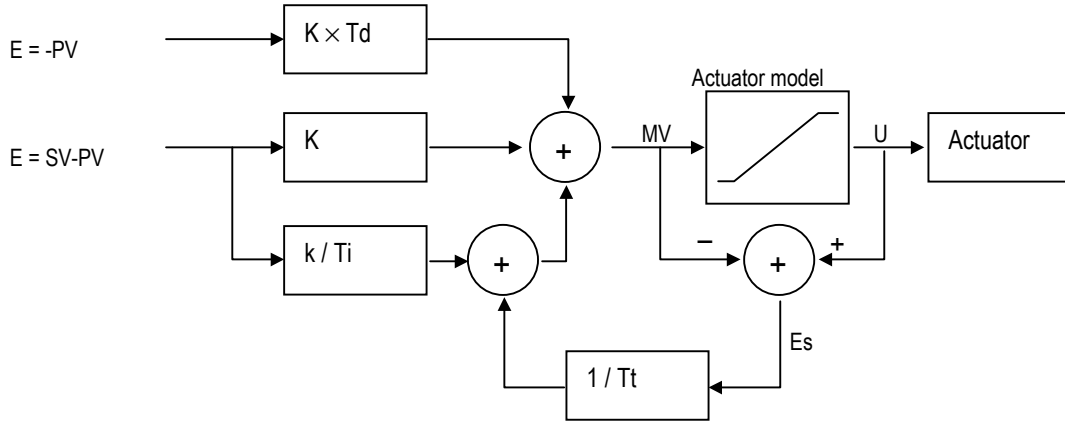
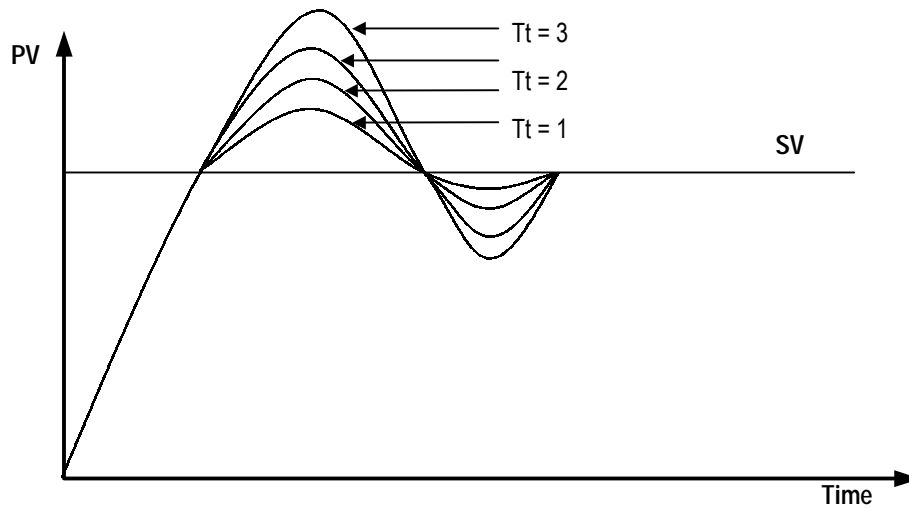

Fig. 2-13 The block diagram of anti-windup control system
Fig. 2-14 The PV output characteristics with different Tt values.
There are several methods to avoid the windup of actuator. The most popular two methods are adding another feedback system to actuator, and using the model of actuator. The Fig. 2-13 shows the block diagram of the anti-windup control system using the actuator model.
As shown in the Fig. 2-13, the anti-windup system feedback the multiplication of gain ( $1/T_t$ ) and  $E_s$  to the input of integral term. The  $E_s$  is obtained as the difference value between actuator output (U) and manipulation value of PID controller (MV). The  $T_t$  of the feedback gain is tracking time constant, and it is in inverse proportion with the resetting speed of integral term. Smaller  $T_t$  will cancel the windup of actuator faster, but too small  $T_t$  can cause anti-windup operation in derivative operation. The Fig. 2-14 shows several  $T_t$  value and PV in the PI control system.